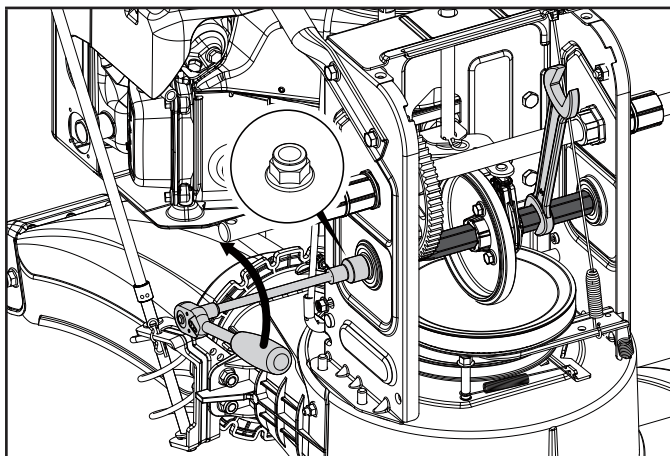

Figure 45
4. Carefully remove the M10 hex nut which secures the hex shaft to the snowblower frame (Fig. 45).